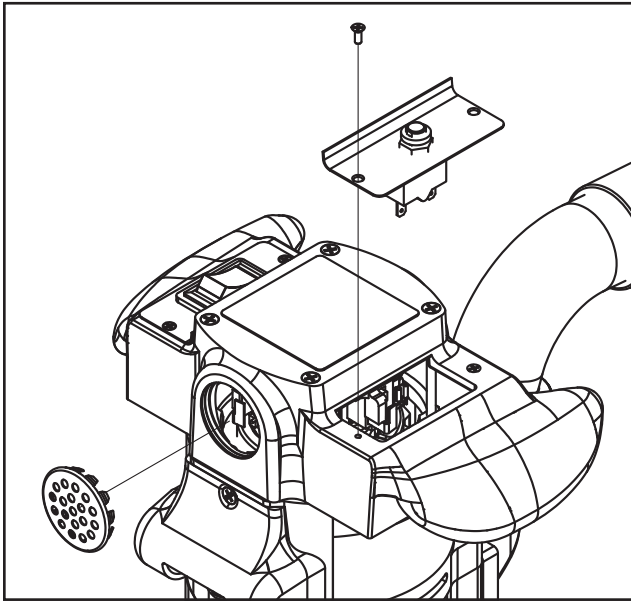
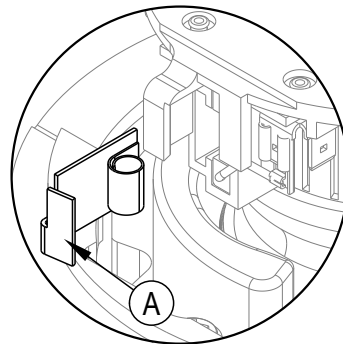

Figure 8
Figure 9
Inspect all four brushes every 6 months or 250 hours. Access to the brushes is gained through the front and back motor vent plugs and under both motor covers (figure 8). Press tab (A) on spring clip assembly in, rotate, then remove (figure 9). Use needlenose pliers to disconnect the shunt wire. If any brush has worn to 3/8" in length or shorter, replace the entire set.